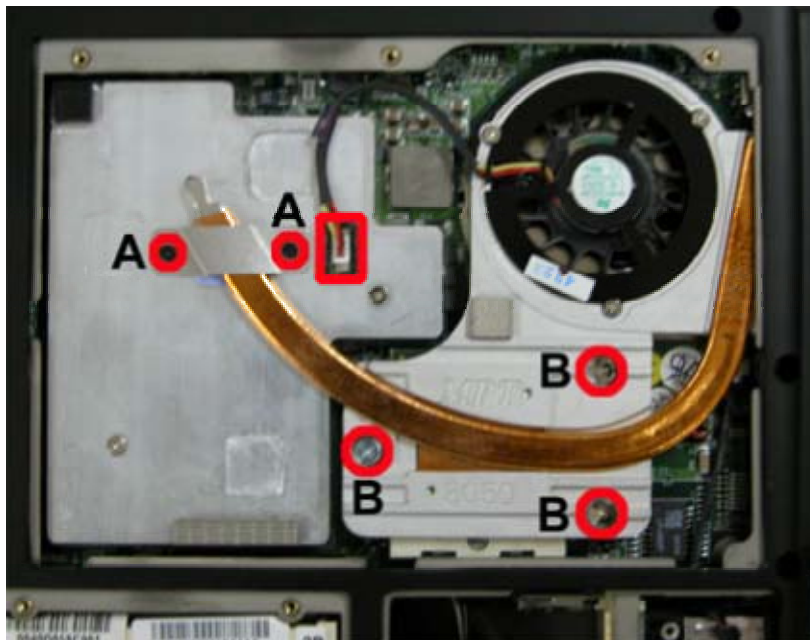

Fig. 13 Removing the heat sink
2. Release all screws on the heat sink, disconnect the Fan connector and carefully remove the heat sink as shown in Fig. 13